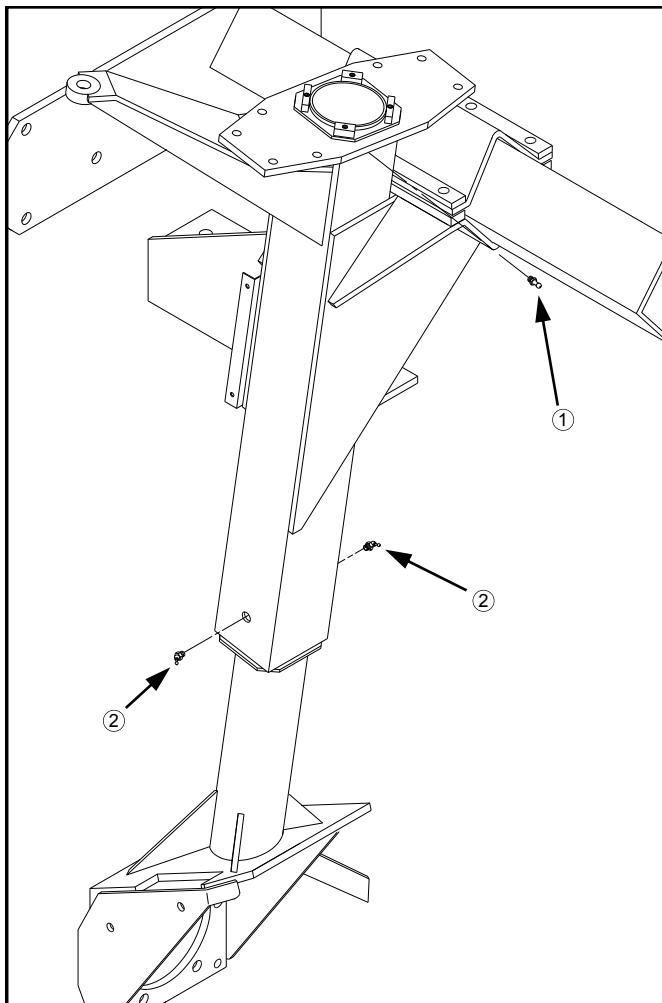

FIG 8.25
Hagie DTS 8 leg assemblies are constructed with upper and lower nylon bearings for suspension telescoping between the inner and outer leg weldments. These bearings must be lubricated to avoid bearing failure and ensure optimal ride quality. There are grease zerks located on the sides of the leg assemblies, one for the upper bearing (fig. 8.25, item 1) and two for the lower bearing (fig. 8.25, item 2). Greasing all bearings on all four legs daily is very important.